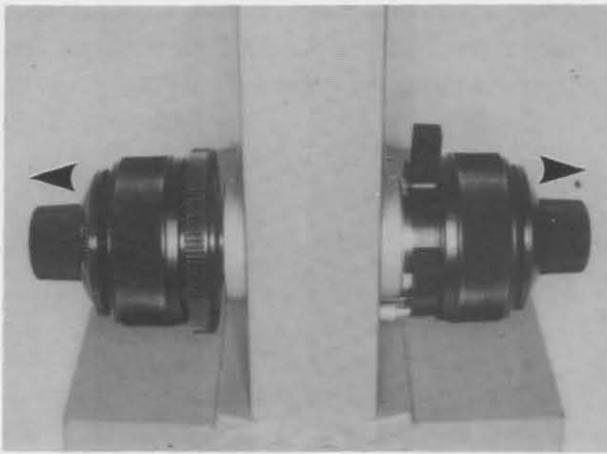

Fig. 3-15
c) Pull out the fine adjustment knobs in both directions. (See Fig. 3-15)